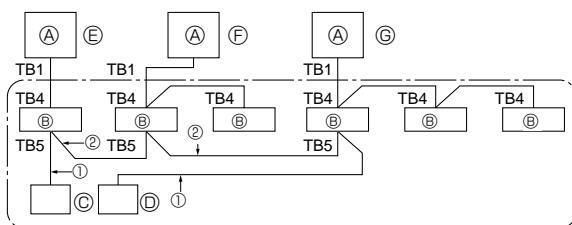

Fig. 10-1
① Supply power (circuit breaker).
- ② After the gas stop valve is closed, set the SWP switch on the control board of the outdoor unit to ON. The compressor (outdoor unit) and ventilators (indoor and outdoor units) start operating and refrigerant collecting operation begins. LED1 and LED2 on the control board of the outdoor unit are lit.
③ Because the unit automatically stops in about two to three minutes after the refrigerant collecting operation (LED1 and LED2 are lit), be sure to quickly close the gas stop valve. When LED1 and LED2 are lit and the outdoor unit is stopped, open the liquid stop valve completely, and then repeat step ② after three minutes have passed.
④ Turn off the power supply (circuit breaker).
10. System control (Fig. 10-1)